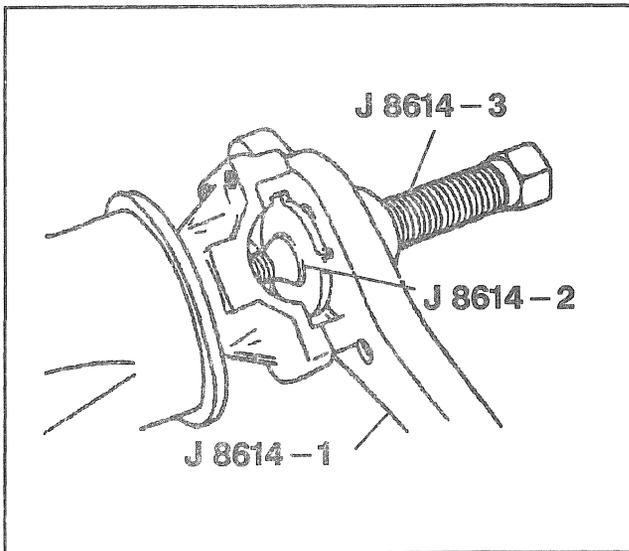

Figure 7—Removing the Pinion Flange
19. Pinion flange using J 8614-01 (Figure 7).
20. Pinion (15) from the axle housing.